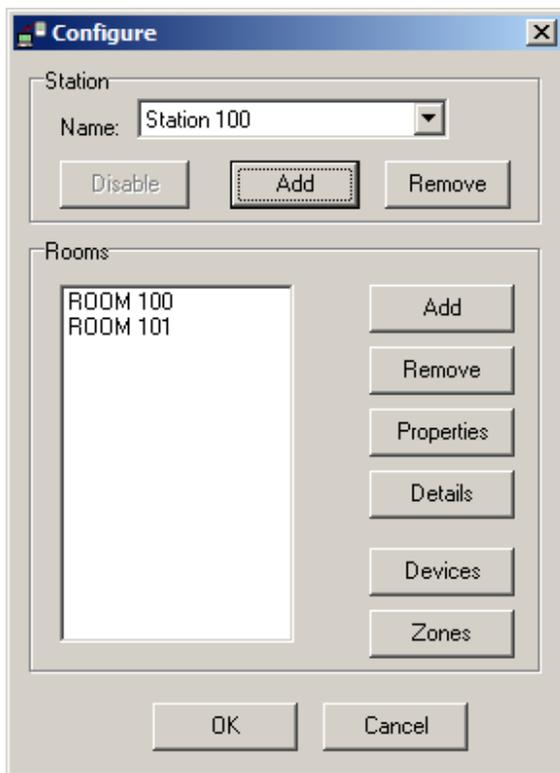

Figure 20
- Two sections are in the **Configure** box, the top section is the Station box and the bottom section is the Rooms box, **Figure 20**. Each section has its own Add and Remove buttons to use for programming the system.